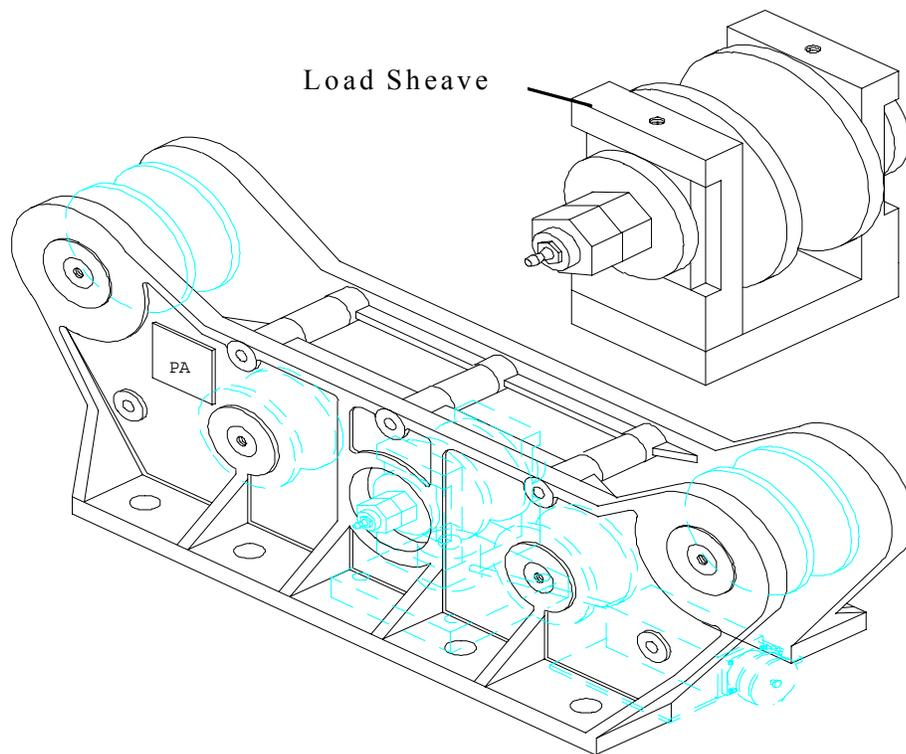
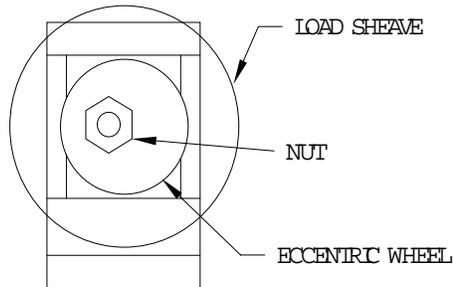

Figure 2. SKM 500 Linerider
Figure 3. Load Sheave and Eccentric Wheel
The linerider requires a load sheave adjustment to maximize the voltage output of the amplifier and minimize the line angle through the linerider. The linerider maximum output of 2.5 volts should be equal to the maximum hoist rope line pull. The load sheave may need to be adjusted by turning the eccentric wheel on the load sheave of the SKM500 SERIES linerider, see Figure 2.
- a. Locate the load sheave and eccentric wheel on the linerider, see Figure 2. There is a single nut on one side and a double on the other. These both should be loosened to some degree. Adjustment from the double nut side seems to work the best after tightening the 2 nuts together. Mark the wheel before and after turning to indicate how far the wheel has been turned. This adjustment may have to be completed more than once to set the correct voltage. To increase the output voltage, the load sheave will need to move up; therefore using Figure 3 as an example, rotate the wheel clockwise. We suggest turning the wheel a maximum of a 1/4 turn. After you have set the mechanical adjustment tighten all nuts insuring not to move the wheel.